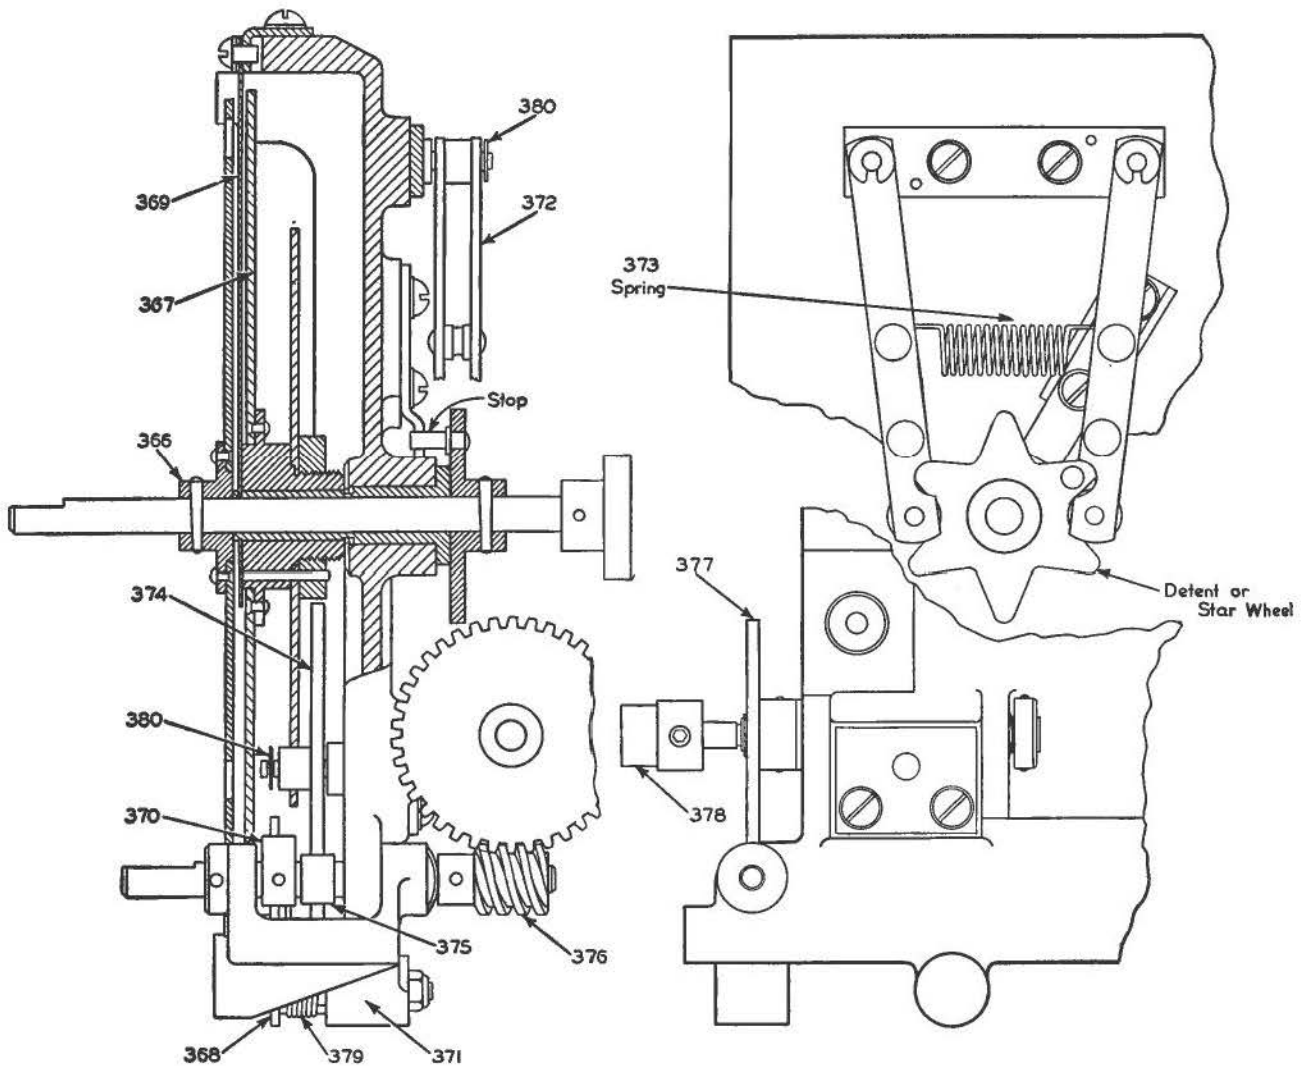

Figure 104. Radio Receiver BC-348-H Dial and Mask Assembly
The overall gear ratio between the tuning shaft and the capacitor shaft is 200 to 1. Since the design of the tuning capacitor permits but a small amount of rotation at either end of its travel beyond the 180 degrees required to give its complete range in electrical capacity, means are provided to stop the tuning shaft at either end of a total of approximately 100 revolutions. This is accomplished by a cam on the outer edge of the tuning dial which operates an arm pivoted on a pin of the frame casting. One end of this arm has a roller (part of item 368 Figure 104) which runs on the outer edge of the tuning dial. The roller is held in
contact with the dial by a spring (379 Figure 104). The dial periphery is out away in such a manner that when the point corresponding to either end of the tuning capacitor travel is reached, the roller, and therefore the end of the arm, can move toward the center of the dial, being forced in that direction by the spring. Thus the opposite end of the stop arm is moved so that the hook at the end of the arm engages the rotating stop on the tuning shaft, and the shaft is thereby prevented from further turning. When the direction of rotation of the tuning shaft is reversed, the roller and arm are pushed outward against the spring by the cam edge of the dial and the stop disengages.